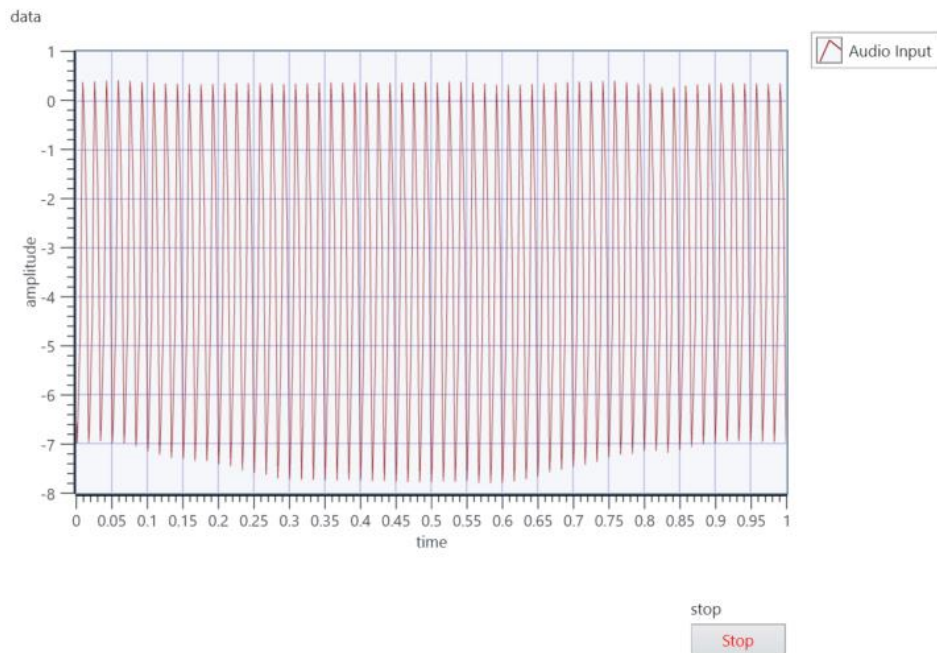

Figure 6-9 Front panel controls and indicators give the user a means to view data and interact with the program.
21. Run the VI by clicking on the run arrow at the top left . Run an MP3 source (your cell phone, or the laptop) into the AUDIO IN terminal of the demo box and observe the acquired data on your front panel indicator. You should see data like in Figure 6-9.